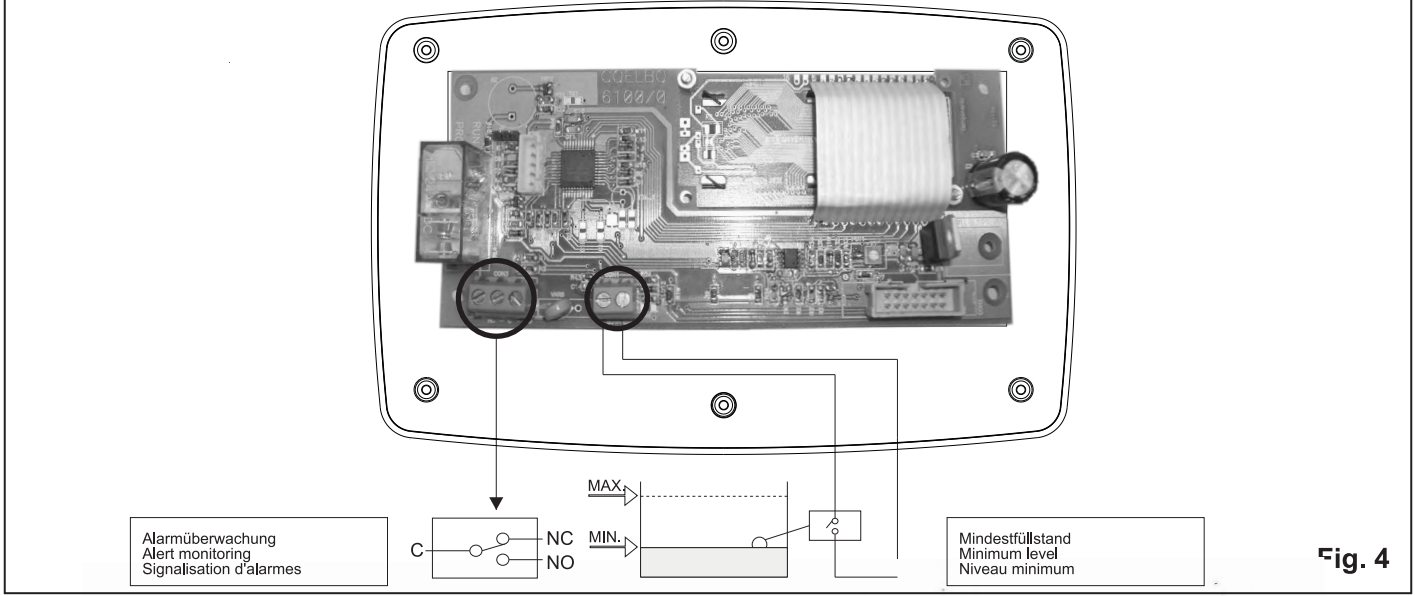

Fig. 4
- Alert monitoring: **ONEMATIC** has a volt-free contact with 1 A maximum intensity for the transmission of signals to different types of alarm equipment (optical, acoustic, etc) when a failure, which was previously displayed in the LCD screen, is detected. For connection, see Fig. 4.
- Min. level control: there is an input for stopping all the pumps as soon as the external switch for minimum level detection trips. For connection see Fig. 4.